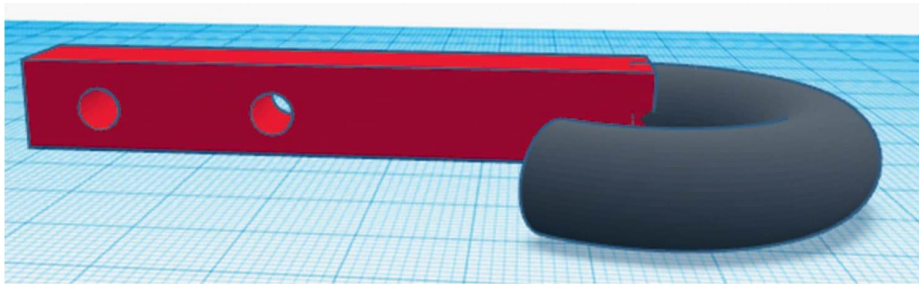

FIG. 3: Create screw holes for the J-shaped hook.
5. Now make two holes in the stem of the J-shape using the same process from Lab 4 (shown here). Each hole must be 5 mm in diameter and at least 2 mm from the edges. The holes must be at least 5 mm apart (fig. 3). The screws to attach the hook to the wall will go through these holes.
- Rotate the J-Shape so it is lying flat on the bed as in fig. 3.